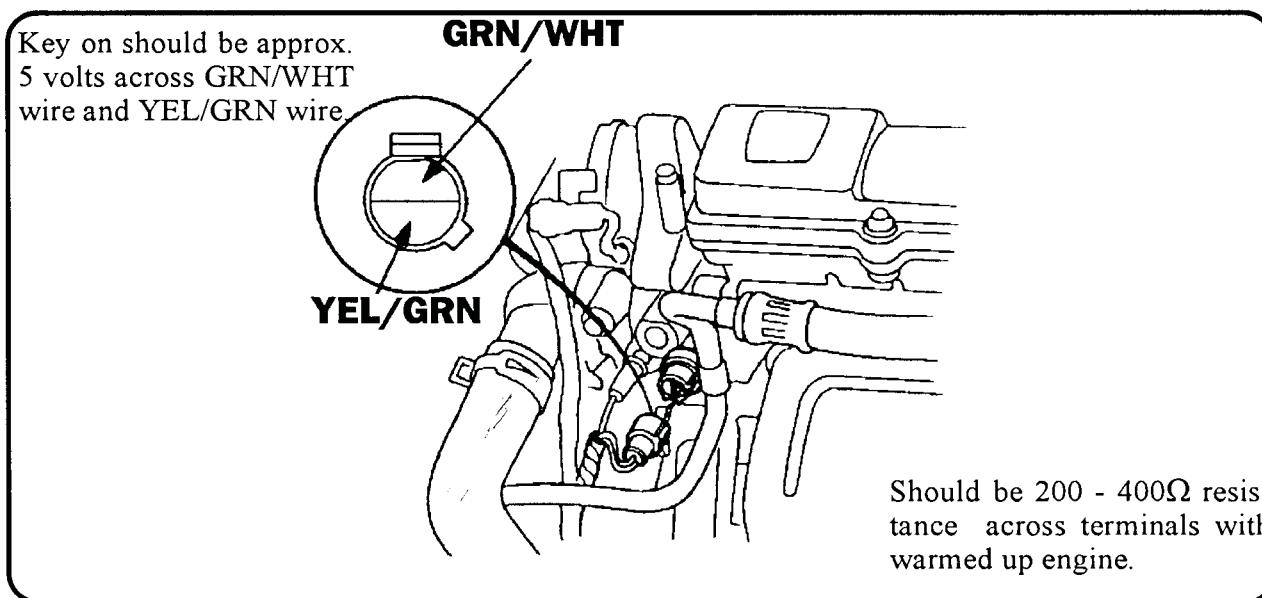

Figure 9
The **Water Temperature Sensor (TW)** on the engine also sends information to the A/T Controller to modify shift strategy. It can be checked with an ohmmeter. See figure 9 for location and wire connector identification.